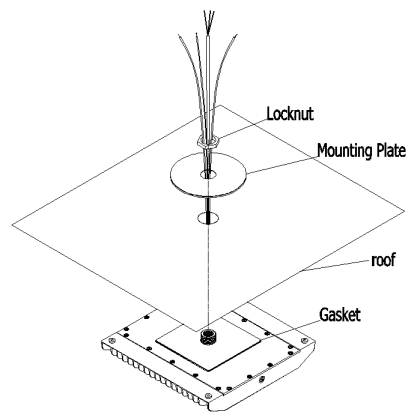

Fig. 2
2. Put the back thread through the hole, secure it by the gasket, plate and hex head locknut. Make sure there is no gap between the plate and roof. See fig. 2.